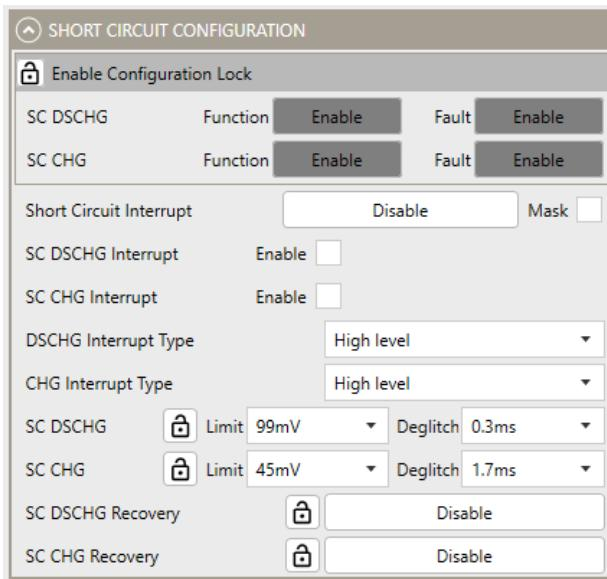

Figure 20: Short Circuit Configuration
16. Configure the SC parameters (see Figure 20).